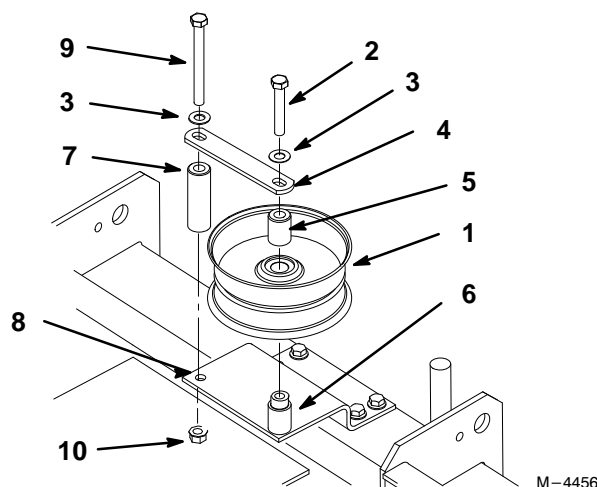

Figure 4
1. Install pulley onto the idler bracket mounting stud (Fig. 4).
2. Install bolt (3/8" x 2-1/4") into spring disk washer, belt guide plate and short spacer. Install into the center of mounting stud. Do not tighten (Fig. 4).
4. Install bolt (3/8" x 3-3/4") into spring disk washer, belt guide plate, long bracket spacer and hole in idler bracket. Install nut onto bolt (Fig. 4).
5. Tighten both bolts (Fig. 4).